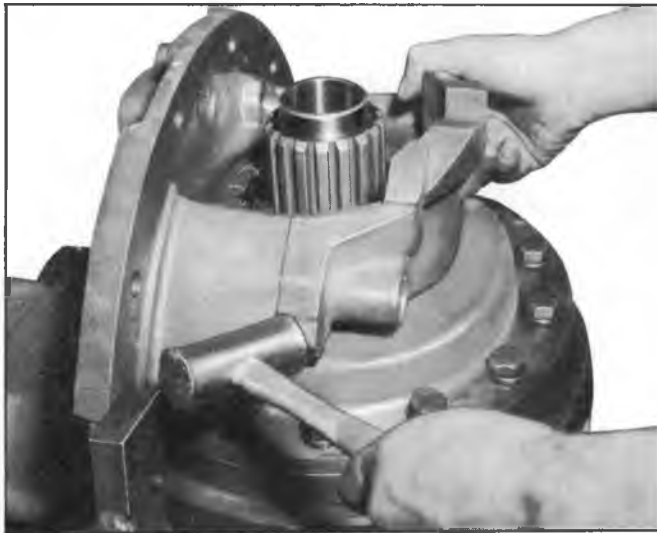

Fig. 7J--Removing Bearing Caps
12. Remove bearing caps and adjusting nuts by tapping on bosses of caps until free from dowels (fig. 7J). Remove the differential and planet assembly from the housing.